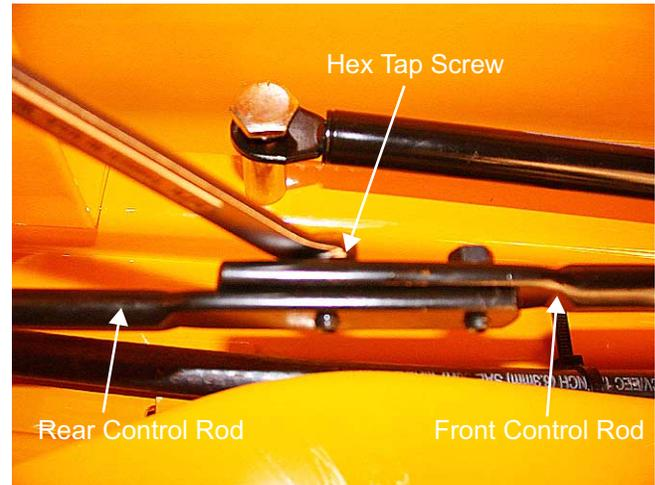

**Figure 4.16**
- 4.16. If wheel rotation continues, loosen the locknut securing the hex cap screw and centering spacer to the neutral bracket, using a 7/16 wrench. See Figure 4.16.